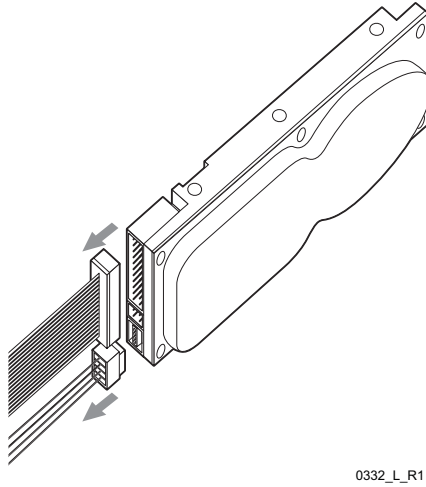

Figure 15-2. Disconnecting the Cables from the Node Disk
- 15 Lift the node disk from the disk drive compartment and disconnect the data cable and power harness that connect to the node disk (Figure 15-2). Avoid touching any internal node components while disconnecting the cables.